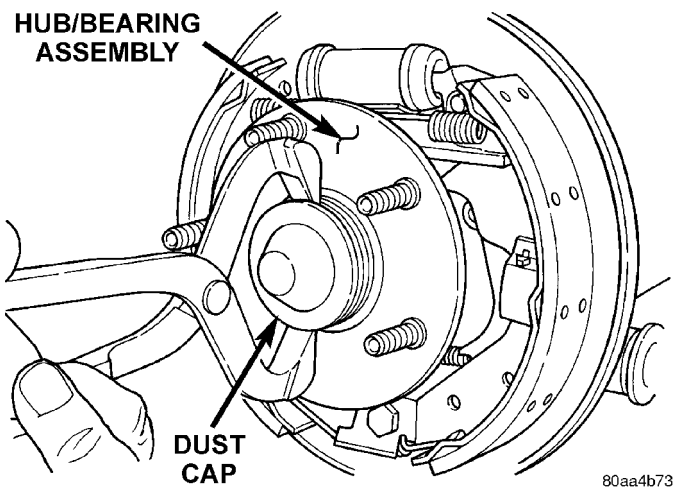

Fig. 98 Rear Hub/Bearing Dust Cap
(4) Remove the dust cap (Fig. 98) from the rear hub/bearing.